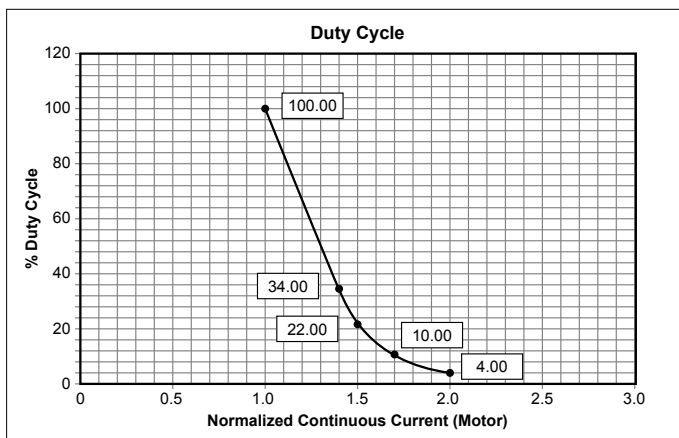

Figure 10 – Duty cycle for peak current operation
- When operating the actuator in the peak current range, follow the duty cycle limits shown in Figure 10.